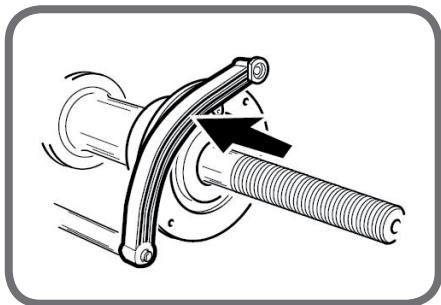

Fig. 9b
- Move the lever of the internal sensor so it rests against the swinging unit flange as shown in figure 9b;